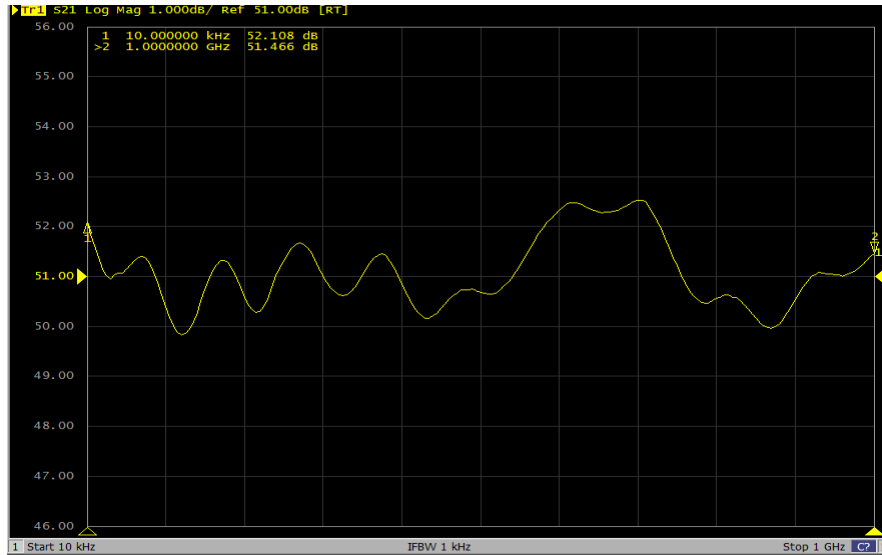
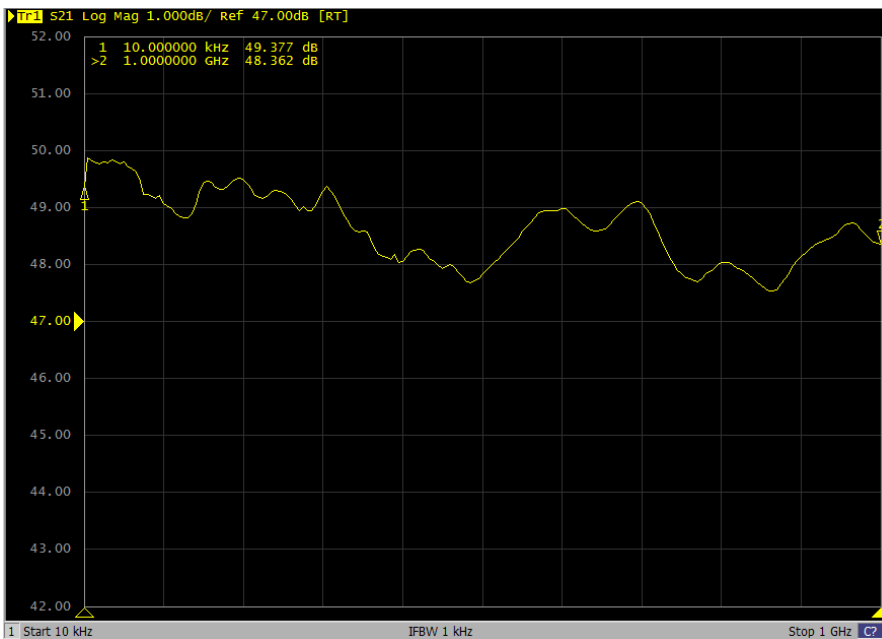

Figure 4-1. Typical Response at -20dBm Input
Figure 4-2. Typical Response at 0 dBm Input
1. The Model 50U1000's typical gain response at -20 dBm input and 0 dBm input is shown in Figure 4-1 and Figure 4-2. The actual gain may vary considerably from that shown in Figure 4-1 but should be  $\geq 47$  dBm at 0dBm input.